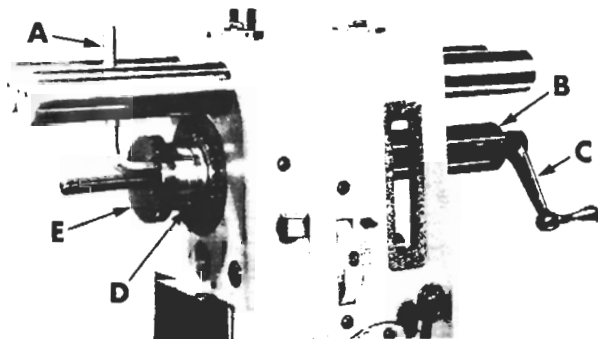

Figure 28
3. Insert spindle (D, fig. 28) into front of column. Slide rear bearing on spindle over threaded diameter.
4. Slide puller sleeve (B) on puller crank screw (C).
5. Slide crank screw (C) thru back of spindle.
6. Screw puller collar (E) on crank screw and lock in place with wrench (A).